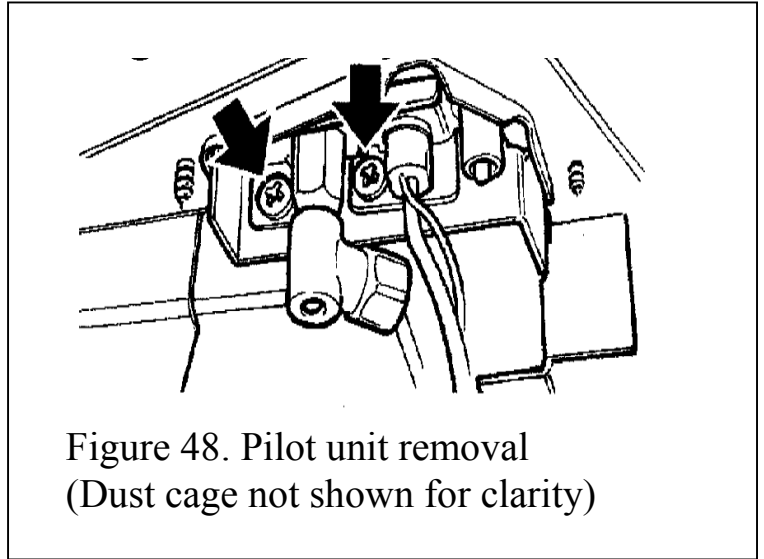

Figure 48. Pilot unit removal
- Remove the first screw securing the dust cage to the pilot unit & burner. Carefully remove the dust cage and place aside. See figure 48.